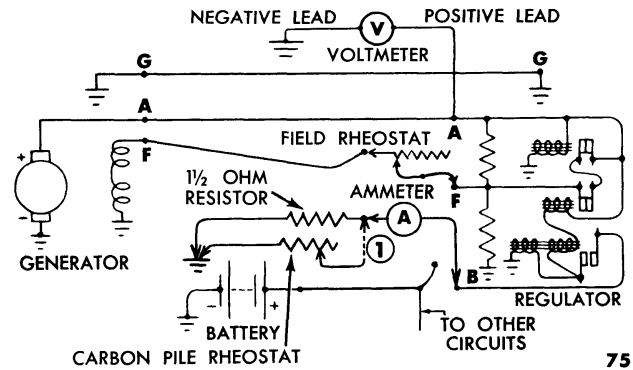

Fig. 24—Regulator Test—Schematic Test Circuit
The four tests presented here are outlined for on-the-vehicle operation and should be conducted in the sequence indicated. Be sure that the regulator is at "normal" operating temperature (equivalent to the temperature after 30 minutes of operation on the vehicle with 10 ampere load). Connect the test equipment as shown in figs. 24 and 25.
(3) **CURRENT LIMIT TEST.** Connect the carbon pile rheostat across the 1½-ohm resistor, (connection marked ① figs. 24 and 25). With the engine speed at 1500 r.p.m., slowly decrease the resistance of the rheostat until the voltmeter reading drops to 13 volts. The ammeter will indicate the setting of the current limiter.